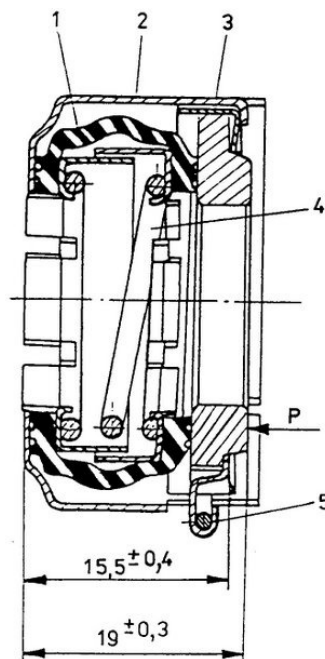

**Fig. 39. Puller for dismounting of a water pump pulley hub**
- Unscrew securing bolts (2) and remove a pulley (4).
- Remove a pulley hub (6) using a puller (Fig. 39) from a shaft (7).
- Screw off a screw (25) and bolts (23) and remove a cover (20) together with a gasket (19).
- Using a press squeeze out a shaft (7) together with a sealing element (17) and a rotor (18); force should be applied toward a rotor.
- Using a press squeeze a rotor (18) out from the pump shaft and remove a sealing element (17).